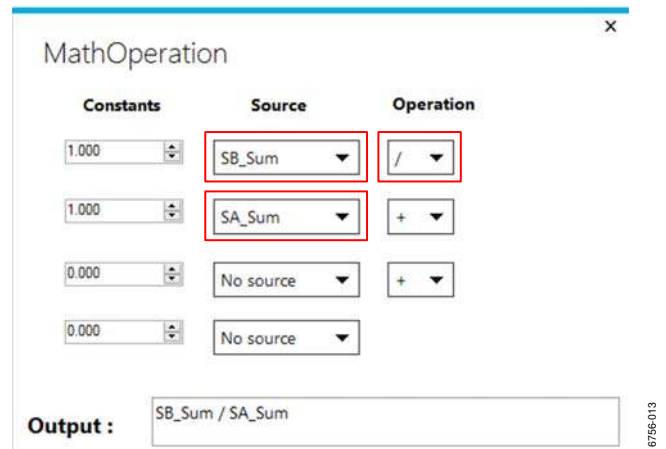

Figure 13. **Op Select** View
1. In the data view (see Figure 19), click the **Op Select** button to open the view shown in Figure 13. Select **SB_Sum**, **SA_Sum**, and the / operation, as shown in Figure 13, to configure the blue/IR ratio in the data view.